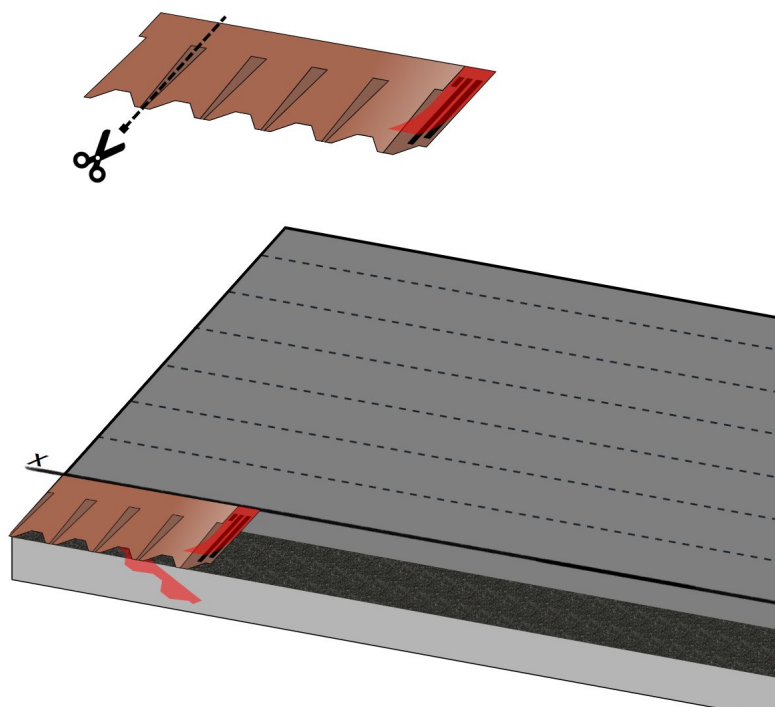
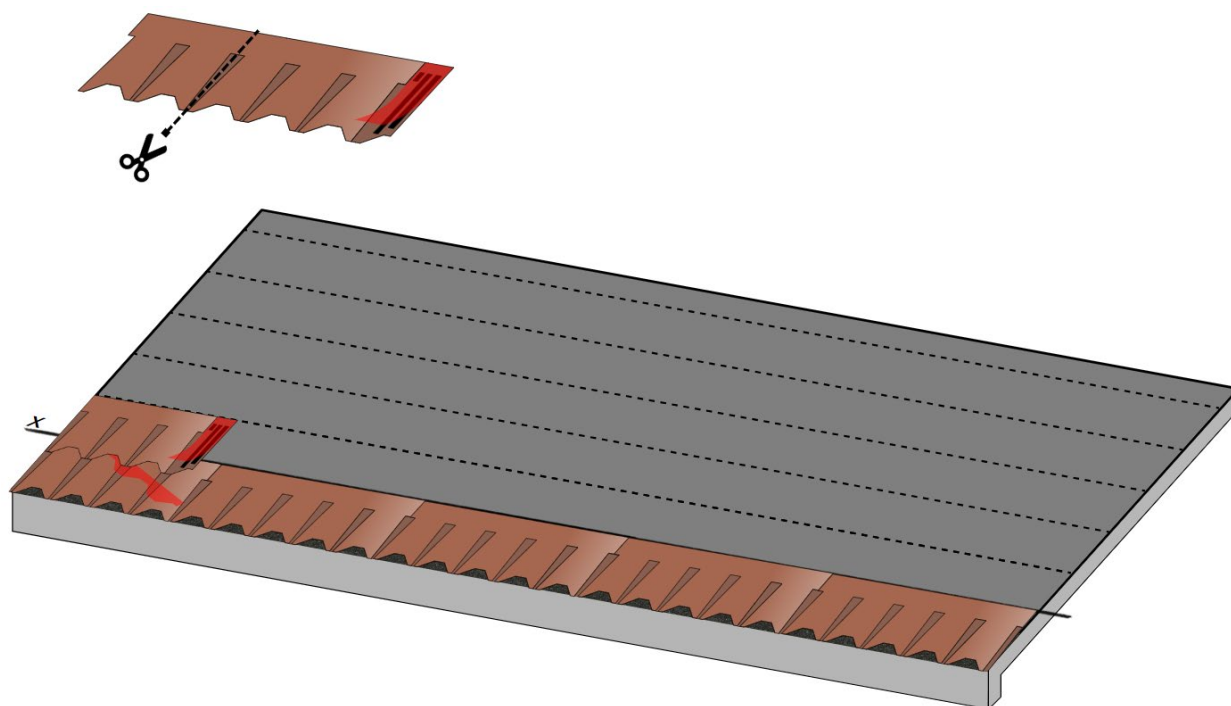

Fig. 21 - Torch installation of the first Master Coppo shingle
Fig. 24 - Installation of the second row of Master Coppo by torch
- Proceed with the torch installation of the first row of Master Coppo shingles. For the torch installation of the Master Coppo, it is necessary to start from the left edge of the pitch, cutting the first shingle on the left - Fig. 24. Remove the protective film from the side and back of the shingle's underlayment; align the left edge of the first shingle with the edge of the pitch and the upper edge with the horizontal **x** - Fig. 21.
- Proceed with the installation of the second row of Master Coppo shingles. Cut two shingle elements from the first shingle of the second row – Fig. 24. Align the left edge of the shingle with the left edge of the pitch and the upper edge of the shingle with the horizontal line, 24.5 cm from **x** - Fig. 24.